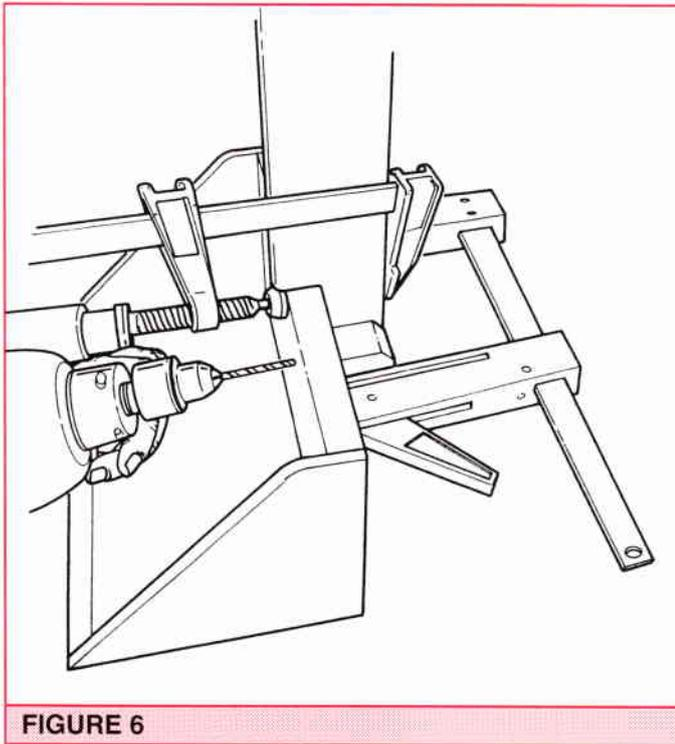

FIGURE 6
7 Clamp the bucket centrally in the cutout of the bucket arm (L), as shown in Figure 6, so that the centre of the 19mm pivot hole in the arm is 58mm from the top of the bucket. (This leaves a small gap between the top of the bucket and the end of the cutout notch, allowing the bucket to tilt freely). Push a short length of dowel through the pivot blocks and hole, and lightly clamp the clocks together pinching the arm. Drill for four block attachment screws and attach the blocks to the back of the bucket with screws and a strong glue.